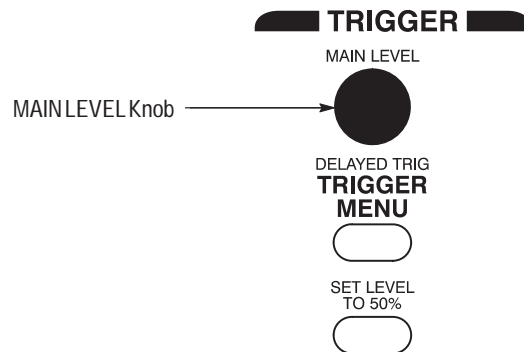

Figure 2-7: TRIGGER Controls
1. To create an unstable display, slowly turn the trigger **MAIN LEVEL** knob (see Figure 2-7) first one direction, then the other. Observe what happens when you move the trigger level above the highest part of the displayed waveform. Leave the trigger level in that untriggered state.